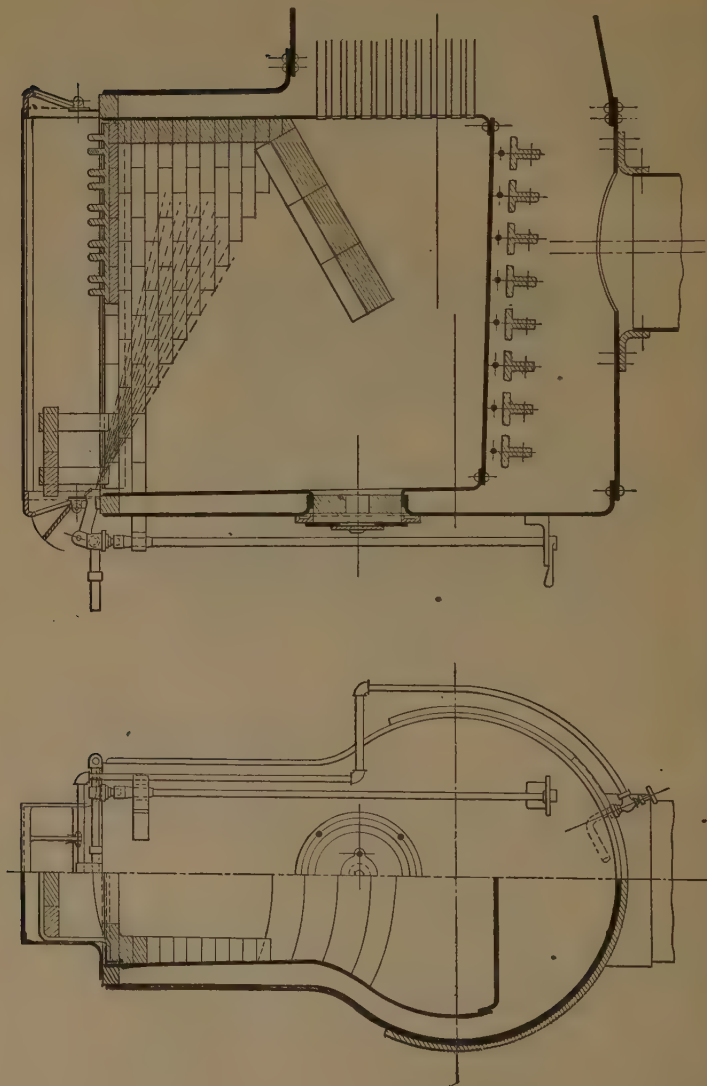

Fig. 424. Baldwin Firebox with Oil Burner.
A. Referring to Fig. 424: The burner is below the mud ring at the back of the firebox, but pointed slightly upwards, spraying the mixture of oil and steam against the brick arch; the